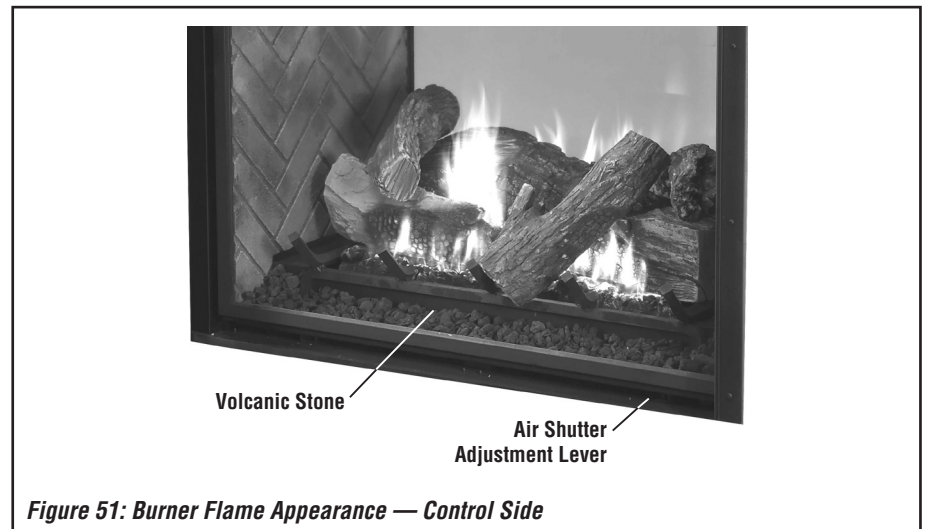

Figure 51: Burner Flame Appearance — Control Side
2. Allow the burner to operate for at least 30 minutes while continuously observing the flame to ensure that the proper flame appearance has been achieved (see **Figures 51 and 52**).
3. Adjust the air shutter using the lever on the lower right side of the firebox (**Figure 51**).
Note: See **Figures 51 and 52** for proper burner flame appearance.